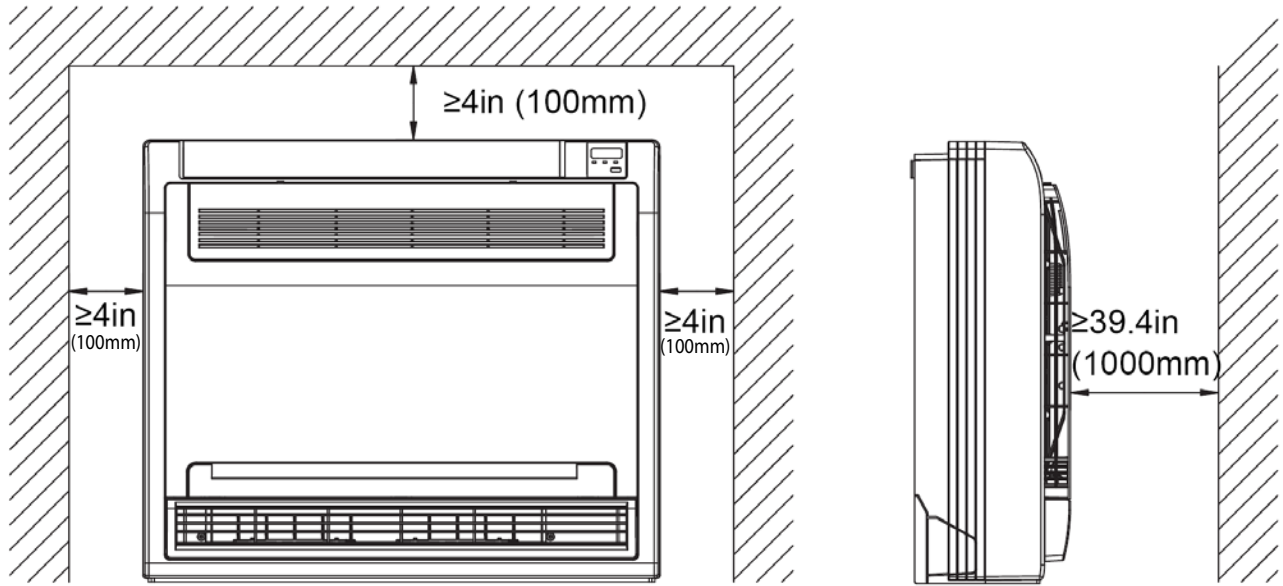

Fig. 6 — Clearance for 12K
**Clearance** - Provide adequate clearance for airflow (see figures 6 and 7).